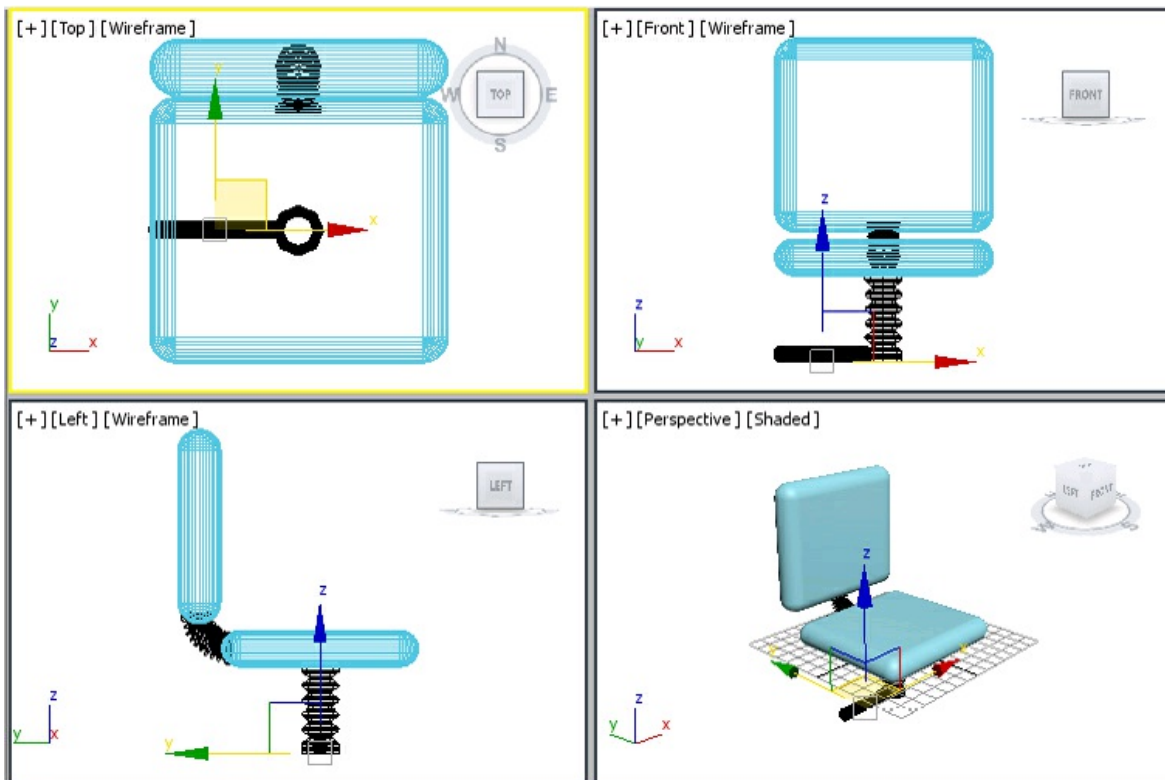

Figure 3-38 Alignment of leg01 in the viewports
6. Choose the **Select and Move** tool and align *leg01* with *leg support* in the viewports, as shown in Figure 3-38.